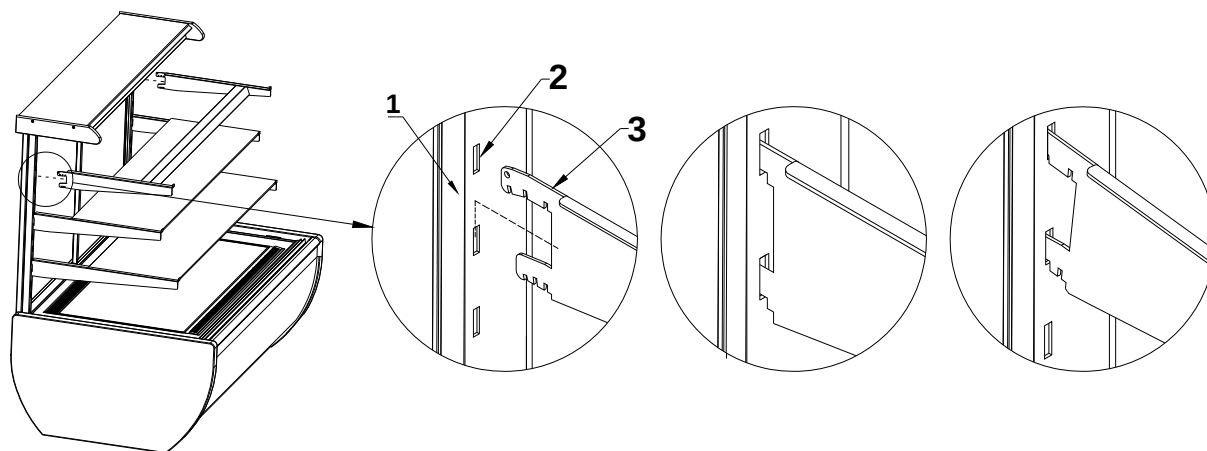

Fig.3 Fixing the hook in the frame
1. *(This concerns only "Jamajki" device)* Fix hooks with fluorescent lamp in the frame Fig.3 \(p. 7\)